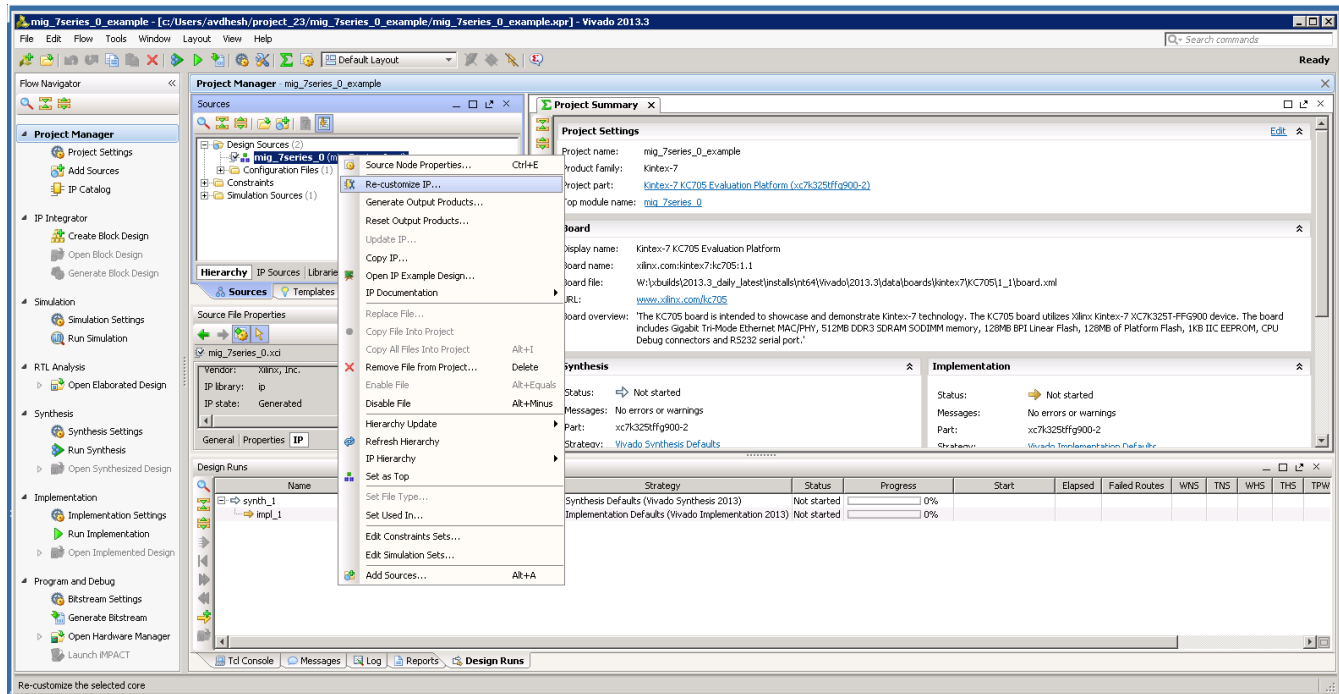

Figure 4-36: Recustomize IP
- Recustomization of the MIG IP can be done by using the **Recustomize IP** option. It is not recommended to recustomize the IP in the example\_design project. The correct solution is to close the example\_design project, go back to original project and customize there. Right-click the XCI file and click **Recustomize IP** (Figure 4-36) to open the MIG GUI and regenerate the design with the preferred options.